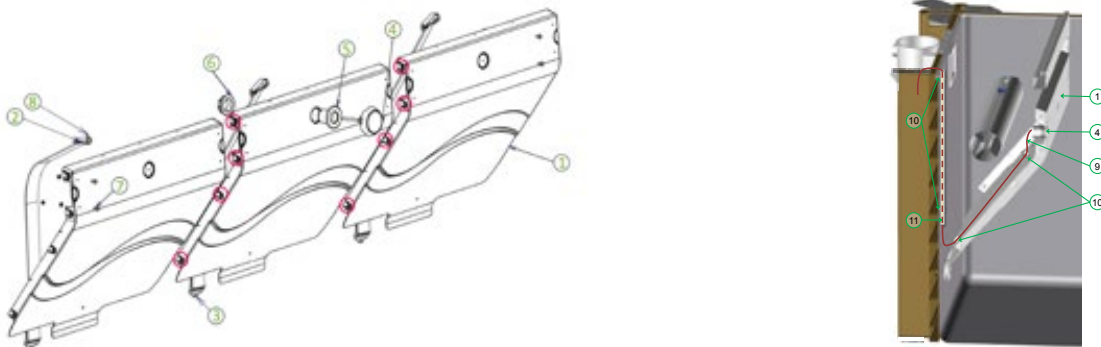

Figure 44 – Installing the pit wall and underwater light
As of the 1st of January 2004, the French pool safety standard NF P 90-308 has required that the portion of the pool in which the cover is installed must be separated from the rest of pool. Installation of the pit wall is therefore mandatory. The pit wall and underwater light assembly steps are illustrated in *Figure 44*. The screws required for assembly are enclosed in bag Y.
Assemble the three pit wall modules (1) using eight hex head 8 × 20 A4 SS screws, and eight 8 mm diameter nuts, place a 8 mm diameter washer on either side of the wall, that is a total of 16 washers. The locations of these screws on the wall are circled in red in *Figure 44*.